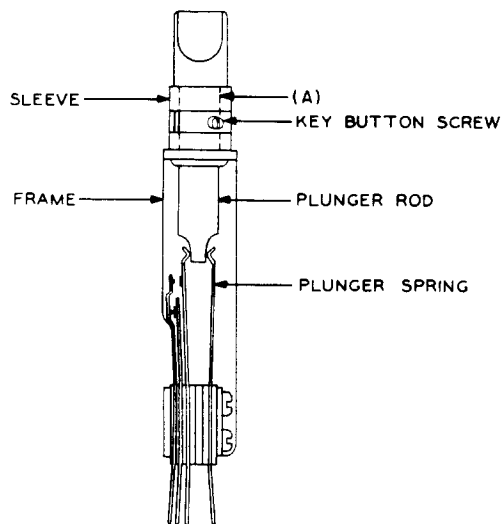

Fig. 14—Typical Of 552-, 585-, 592-, 596-, and 597-Type Keys Equipped With One-Piece Plunger
- (b) **552-, 585-, 592-, 596-, 597-, and 625-Type Keys:** Fig. 14(A) and 16—The plunger rod shall turn freely in the sleeve of the frame. Gauge by eye and feel.
(b) **552C, 552G, and 592A Keys:** Fig. 14—On make-before-break spring combinations (continuity), there shall be a separation of: